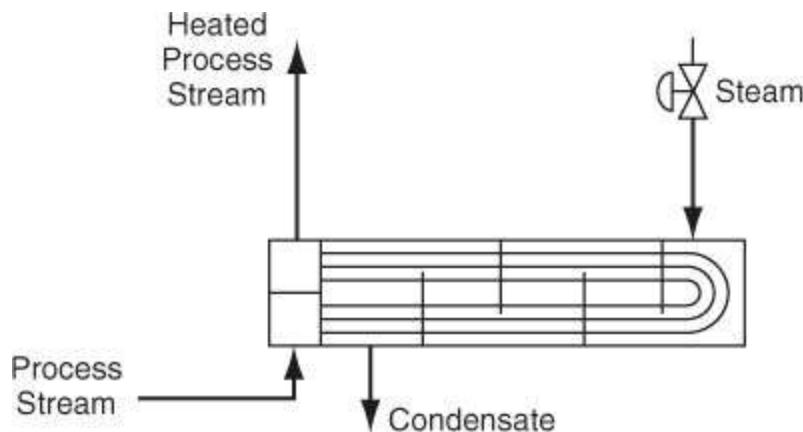

Figure P3.1.14
***3.1.14. Heat exchangers are used to transfer heat from one fluid to another fluid, such as from a hotter fluid to a cooler fluid. Figure P3.1.14 shows a heat exchanger that transfers heat from condensing steam to a process stream. The steam condenses on the outside of the heat exchanger tubes while the process fluid absorbs heat as it passes through inside of the heat exchanger tubes. The feed rate of the process stream is measured as 45,000 lb/h. The flow rate of steam is measured as 30,800 lb/h, and the exit flow rate of the process stream is measured as 50,000 lb/h. Perform a mass balance for the process stream. If the balance does not close adequately, what might be a reason for this discrepancy?